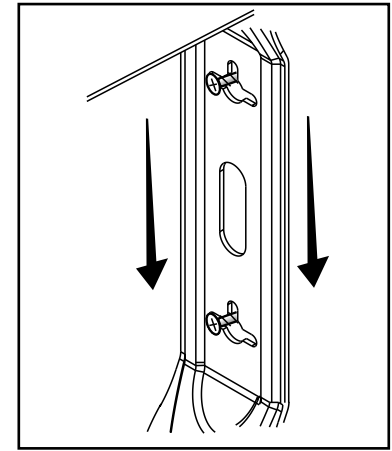

FIGURE 12
- 10) Let the speaker and bracket slide straight down, allowing the screw head to slip behind the smaller end of the keyhole slot [figure 12].